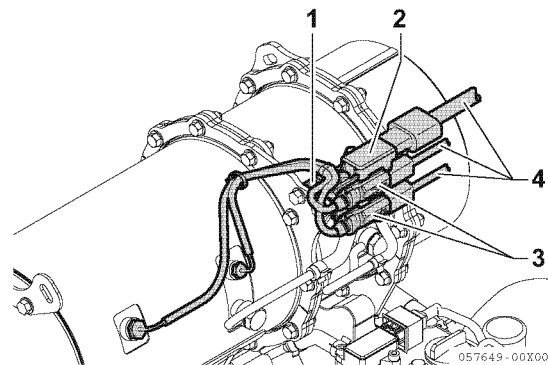

Figure 13-25
- Remove the exhaust differential pressure sensor (**Figure 13-25, (2)**) connected to the sensor bracket (**Figure 13-25, (1)**), and the wiring (**Figure 13-25, (4)**) from the engine or driven machine that is connected to the exhaust temperature sensor couplers (2 pcs.) (**Figure 13-25, (3)**).